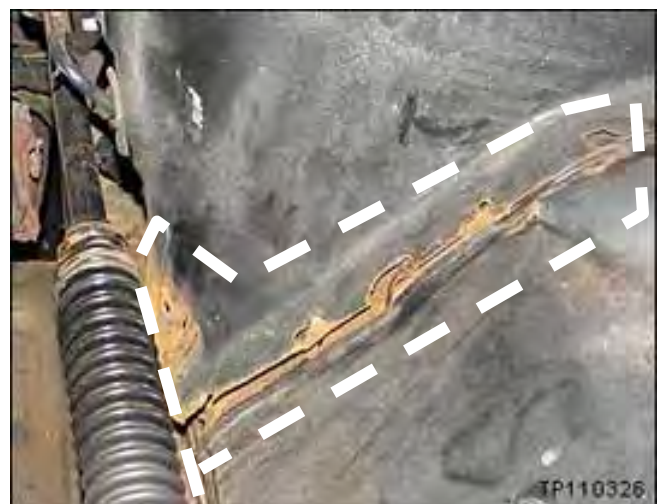

Figure RB6
- 7a. Only if the strut housing panel is separated as shown in Figure RB6: